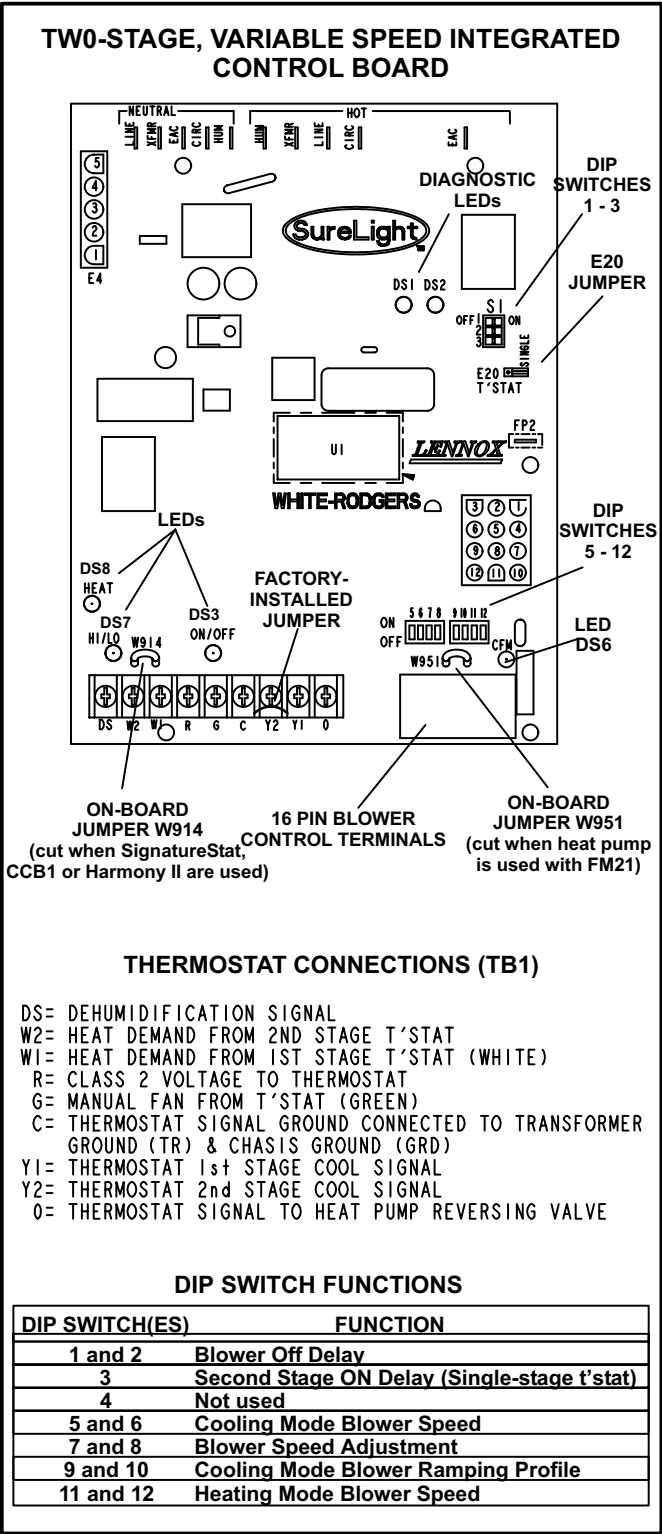

FIGURE 4
All G60UHV units are equipped with the Lennox two-stage, variable speed integrated SureLight control board. The system consists of a ignition / blower control board (figure 4 with control terminal designations in tables 1 through 4) and ignitor (figure 11). The board and ignitor work in combination to ensure furnace ignition and ignitor durability. The SureLight integrated board controls all major furnace operations. The board features two LED lights, DS1 and DS2 for troubleshooting and four LED lights (DS3, DS6, DS7 and DS8) to show furnace status. The board also has two accessory terminals rated at (1) one amp each. See table 5 for status code and table 6 for troubleshooting diagnostic codes.
The control can be utilized in two modes: SINGLE-STAGE thermostat or TWO-STAGE thermostat. The thermostat selection jumper E20, located just below dip switches 1 through 3 (figure 4), must be positioned for the particular application. The jumper is factory set on “TWO” for use with a two-stage thermostat with two stage heat. Re-position jumper to “SINGLE” for use with a single stage thermostat with two stage heat.
Diagnostic LEDs are labeled DS1 and DS2. See figure 4 for location of diagnostic LEDs.